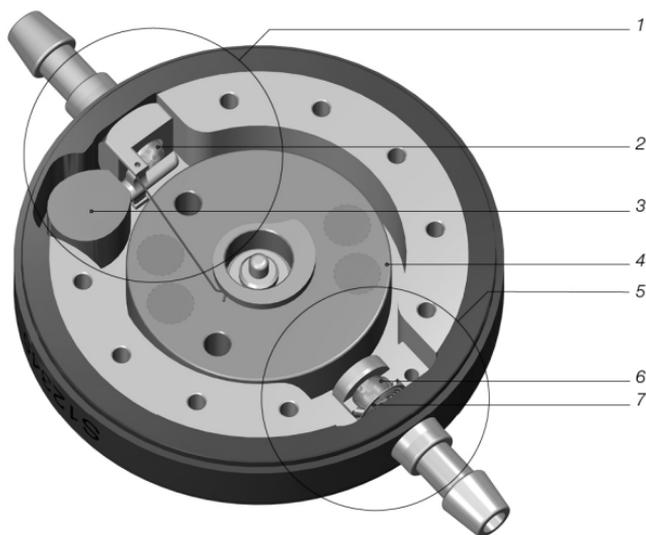

Fig. 1: Cross section of M.blue
M.blue is a valve made from titanium. It consists of an adjustable gravitational unit and a differential pressure unit (fig. 1). The adjustable gravitational unit (1) in the proximal part of the valve contains a tantalum weight (3), which holds a sapphire ball in the ball seat via a lever (2). Depending on the body position of the patient, the influence of the tantalum weight on the sapphire ball and thus the valve opening pressure changes. Via a rotor (4), the pretension of the torsion spring connected to the lever can be changed through the skin.